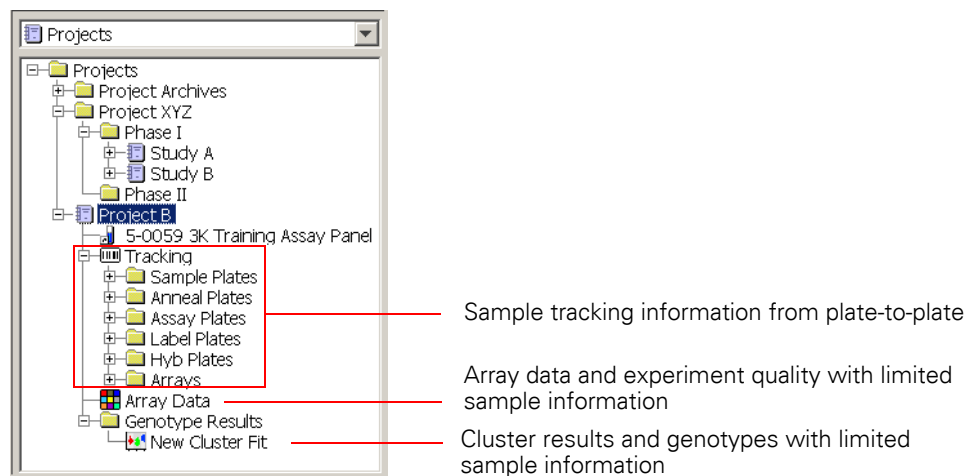

Figure 2.9 Project Icons and Folders
The assay panel icon (test tube; Figure 2.9) indicates the assay panel associated with a particular project. The name associated with the assay panel icon is the filename of the assay panel that was imported into GTGS when the project was created.
- Any of the cluster icons in the Genotype Results folder (Figure 2.9).
Cluster genotyping results are accessed via the Genotype Results folder (Figure 2.9). If cluster genotyping has been performed on data for a particular project, the Genotype Results folder will contain at least one cluster icon. Results include tables and graphs that summarize the quality of the genotyping. Each time you cluster data for a particular project, all of the project experiments with the status Passed are genotyped.